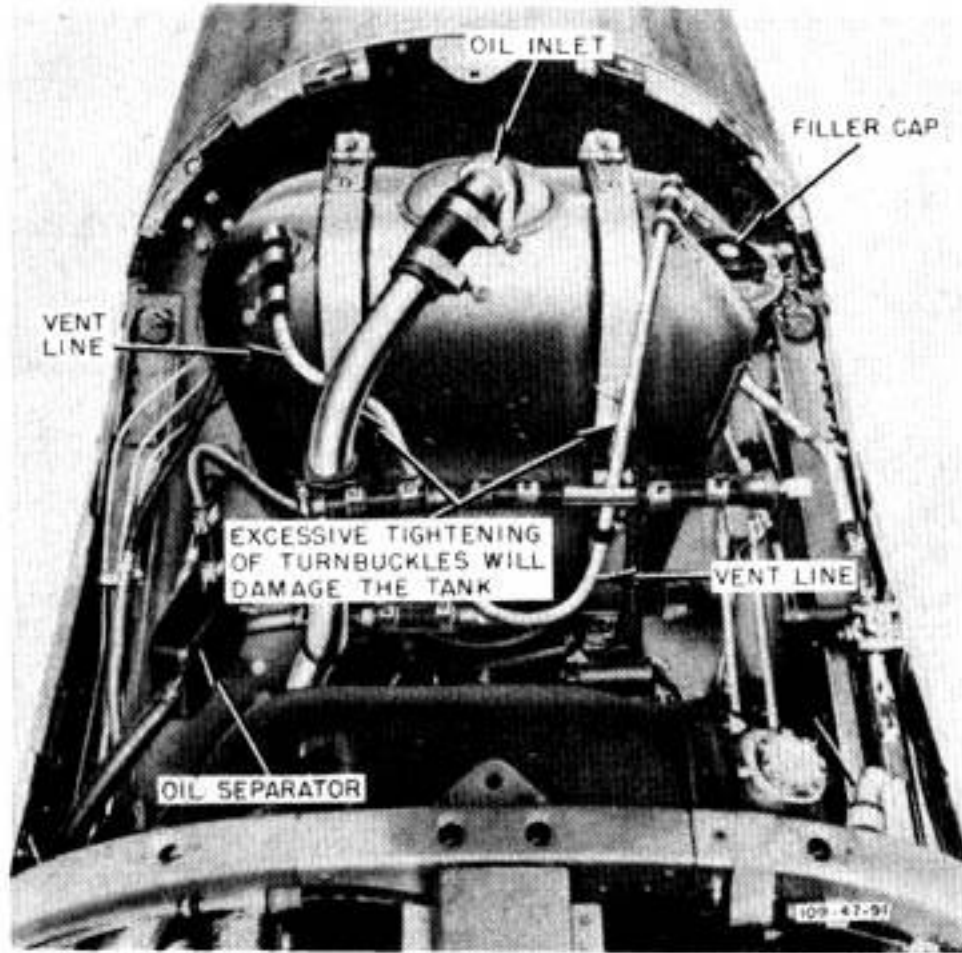
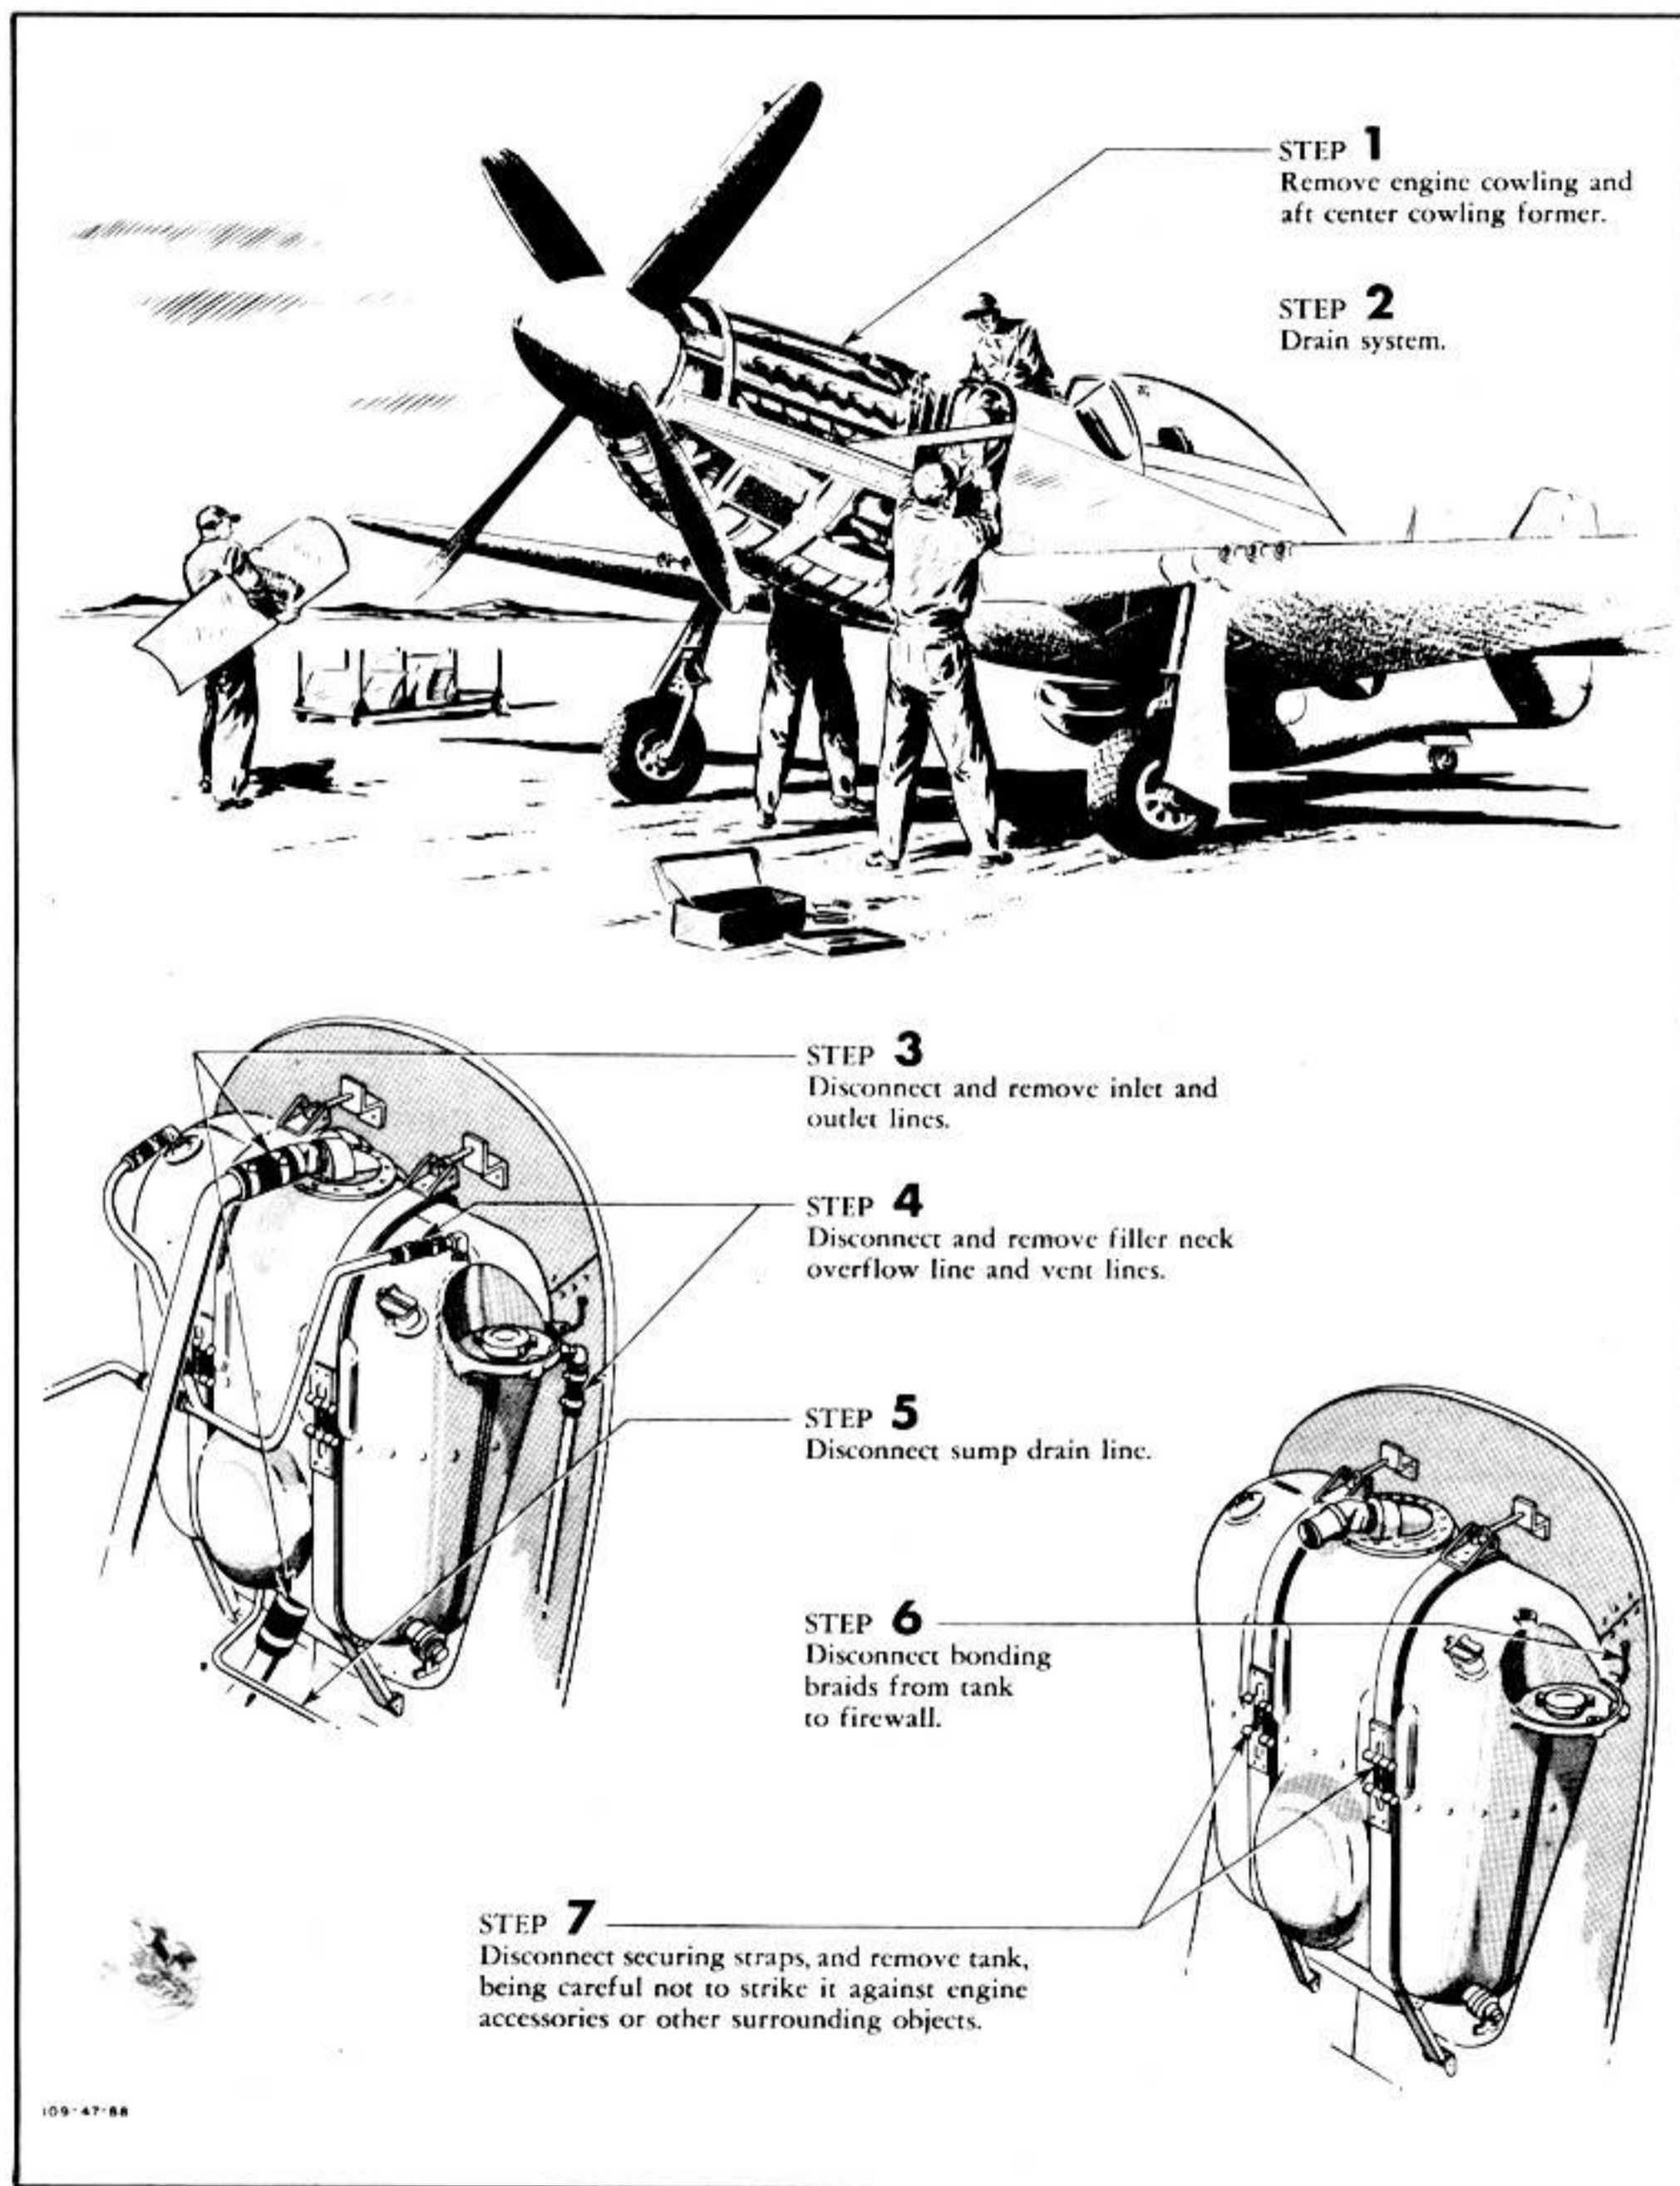

Figure 263—Oil Tank Installed—Early Airplanes
Figure 266—Removing Oil Tank
b. OIL TANK. (See figures 263 and 264.)
(1) DESCRIPTION.—The aluminum alloy oil tank is of the hopper type, making it unnecessary to drain engine lubricating oil except at engine change, unless a failure of an engine part necessitates an oil change before that time. Oil enters the top of the tank through a fitting arranged tangentially with a wall of the cylindrical hopper. The resultant centrifugal action effectively separates air from the oil as it flows through the hopper. Straightening vanes, in the bottom of the hopper, smooth out the oil flow as the oil enters the warming compartment in the bottom of the tank. Flapper valves are provided between the hopper and the warming compartment to prevent back flow of oil during inverted flight. A pendulum-type sump outlet, at the bottom of the tank in the warming compartment, provides positive oil supply to the pump during steep climbs and dives, even though the oil level in the tank has been appreciably depleted. The swivel joint of the sump is sealed from air by oil supplied from a small constantly filled cup at the top of the assembly. Fresh oil enters the warming compartment from the reserve chamber of the tank through two flapper valves in the walls of the compartment. The tank is provided with vents for all flight attitudes. The filler cap is located below the top of the tank to allow for expansion of oil and foaming. An overflow line is connected to a small well surrounding the filler cap and outlets overboard. A drain fitting on the bottom of the tank permits the removal of accumulated moisture and foreign matter. On later airplanes, a dip stick is provided at the top of the tank. Provision is also made on later airplanes for removal of the sump unit and the oil inlet fitting to facilitate cleaning.
(2) REMOVING OIL TANK. (See figure 266.)
(3) TESTING OIL TANK.—Prior to testing the oil tank, thoroughly clean and flush the inside. After plugging